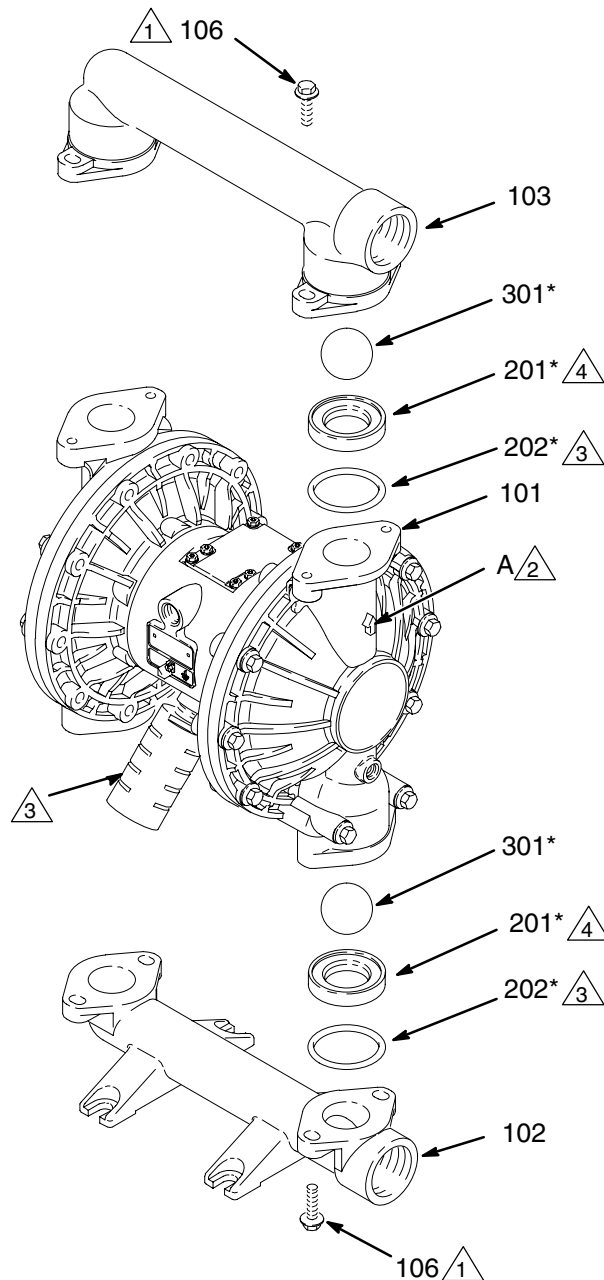

Fig. 10
3. Using a 13 mm socket wrench, remove the four bolts (106) holding the outlet manifold (103) to the fluid covers (101). See Fig. 10.
4. Remove the o-rings (202, *not used on some models*), seats (201), and balls (301) from the manifold.
5. Turn the pump over and remove the inlet manifold (102). Remove the o-rings (202, *not used on some models*), seats (201), and balls (301) from the fluid covers (101).
2. Reassemble in the reverse order, following all notes in Fig. 10. Be sure the ball checks are assembled **exactly** as shown. The arrows (A) on the fluid covers (101) **must** point toward the outlet manifold (103).
- 2 Arrow (A) must point toward outlet manifold (103).
- 4 Beveled seating surface must face ball (301).